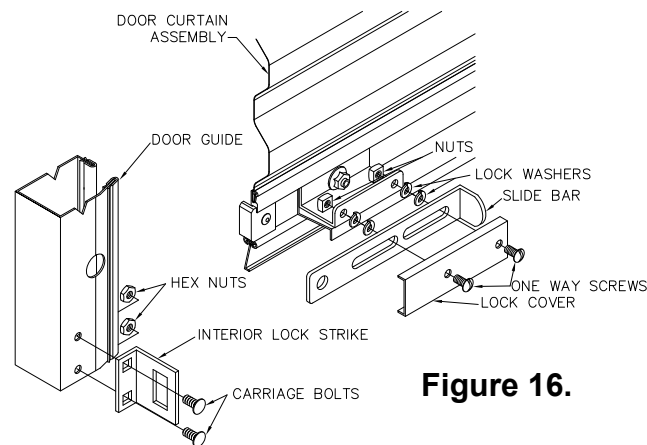

Figure 16.
11.2 Assemble components as shown in Figure 16, noting that two (2) high collar lock washers are placed over each 1/4" one-way screw to allow the lockbar to slide freely.